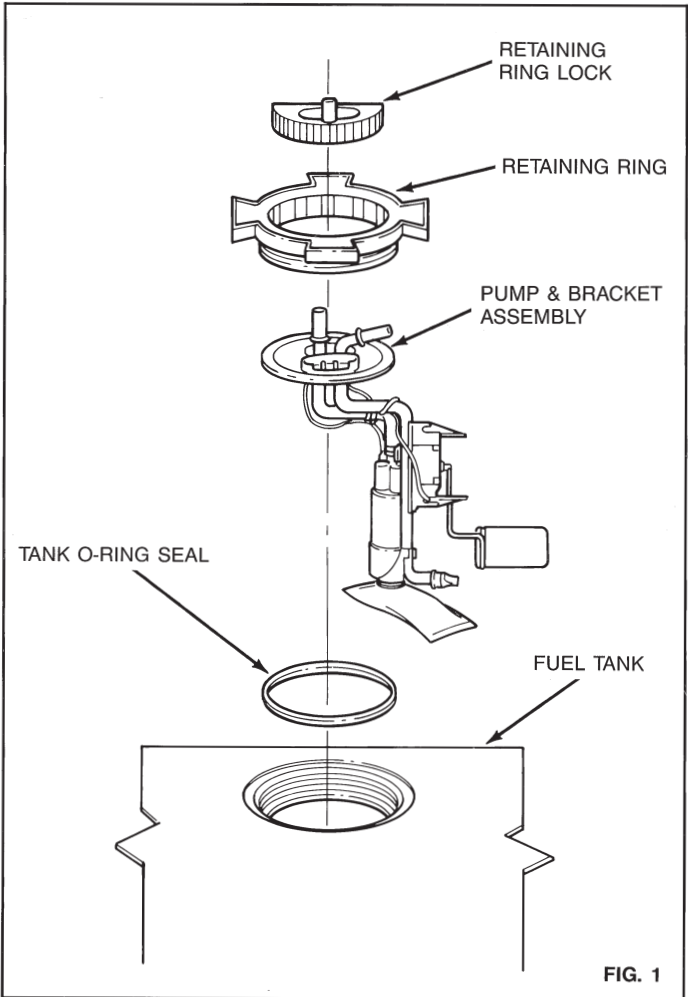

FIG. 1
B) The fuel pump bracket is held in place by an externally threaded retaining ring, which is held in place by a rubber retaining ring lock (see fig. 1). The retaining ring lock must be pulled out before attempting to remove the retaining ring.